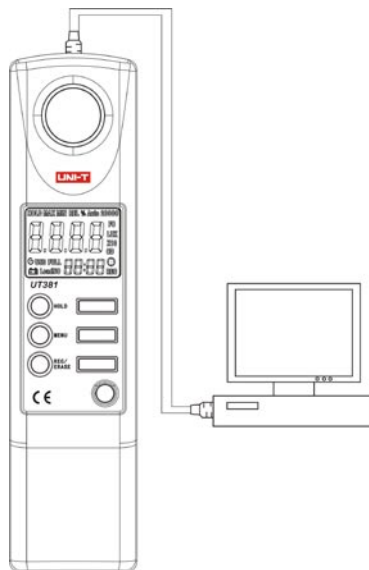

Figure 4
5.USB data transmission function: (only for UT382, see Figure 4)